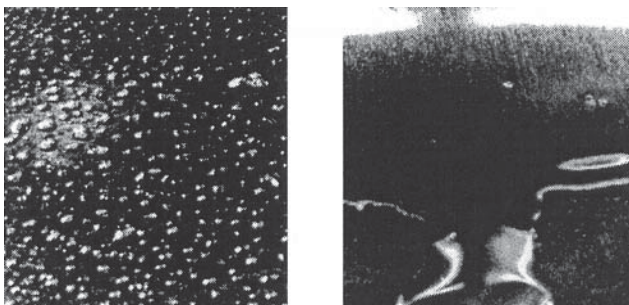

Figure 1. Water break test: the image on the left illustrates a failure, the image on the right, a pass.
- 2 The water should not bead up, but rather flow out to form a uniform film on the surface (see Figure 1).